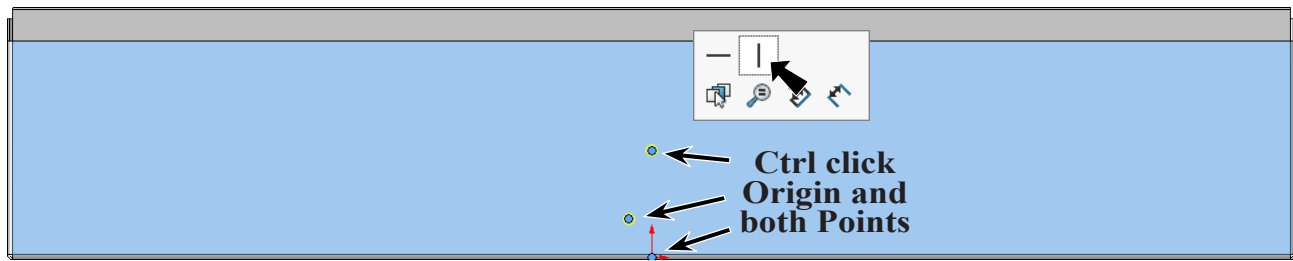

Fig. 19
Step 8. **Ctrl click center point of both points and Origin**  to select all three. Release Ctrl key and click **Make Vertical**  on the context toolbar, **Fig. 19**.